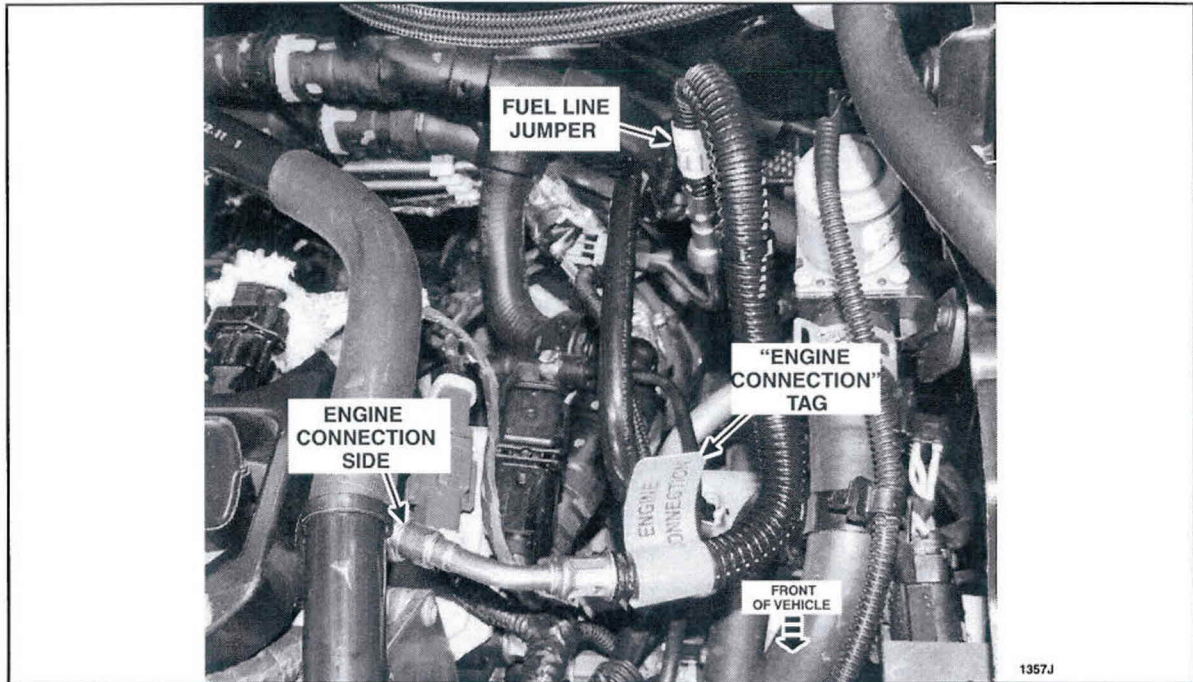

FIGURE 9
NOTE: Once the fuel line jumper is installed, the yellow "ENGINE CONNECTION" tag should be positioned closest to the engine (front of vehicle). See Figure 9.
- Be sure that the yellow "ENGINE CONNECTION" tag is positioned closest to the engine (front of vehicle) before attachment. See Figure 9.